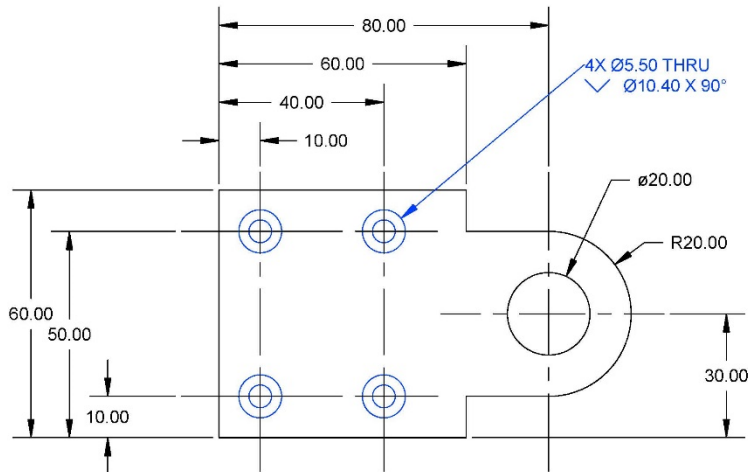

Figure 5-13
2. Place 4 holes as shown in Figure 5-13
3. Select the **Hole Callout**  Icon and place it as shown in Figure 5-13.